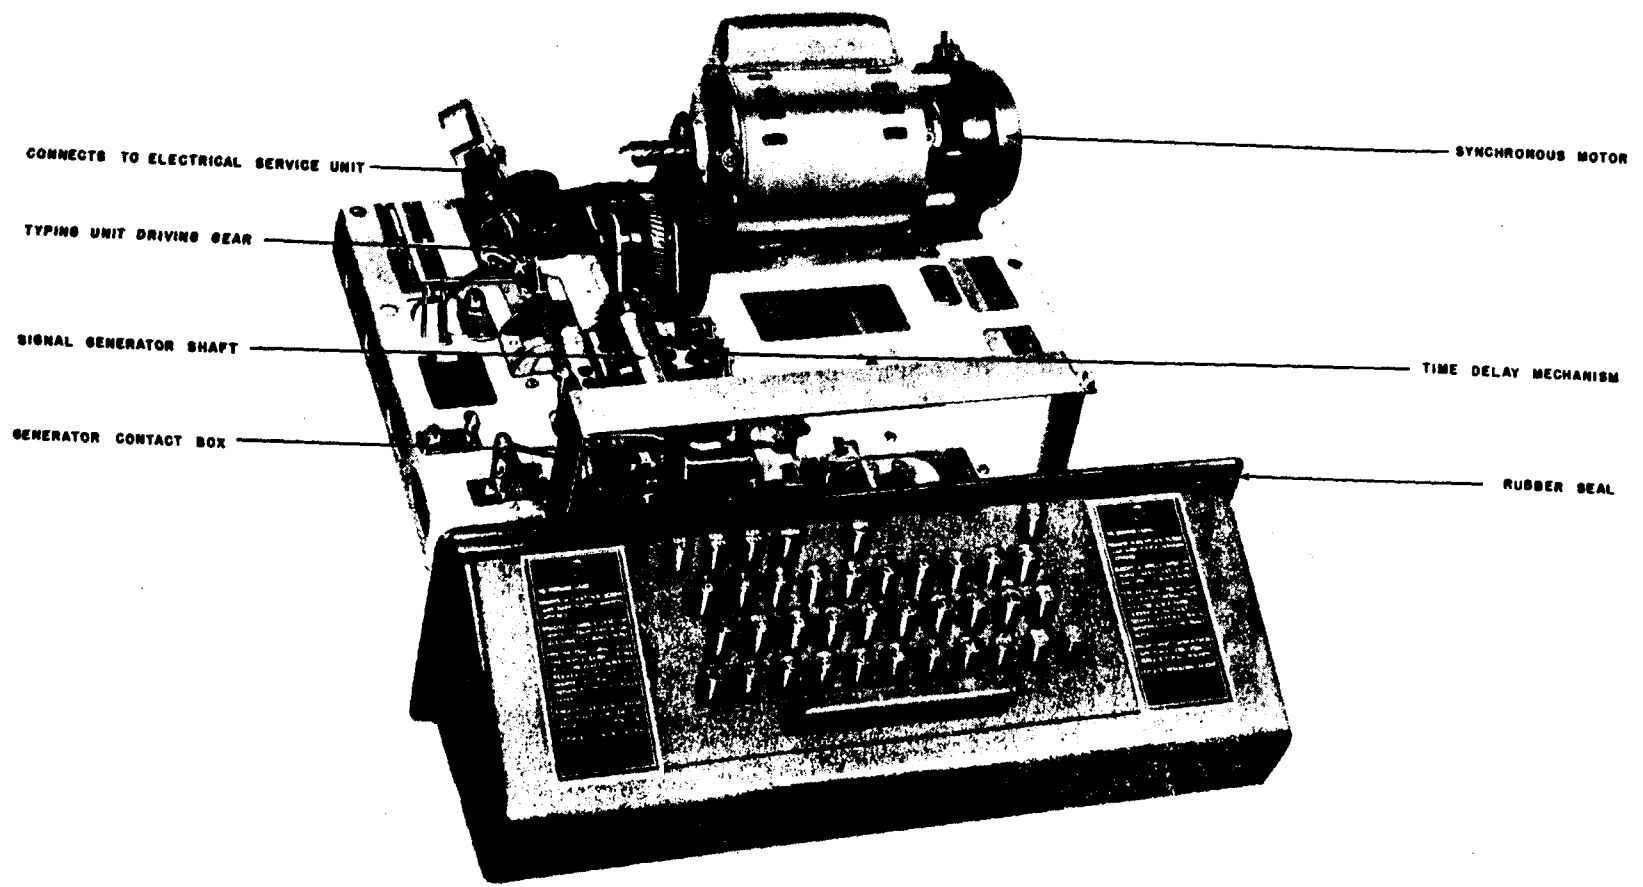

Fig. 3 - Keyboard with Motor
3.01 The keyboard consists of an intermediate shaft assembly, a code bar mechanism and a signal generator. The keys are positioned in the conventional three-bank arrangement and are colored green. Special keys (red) for line break, keyboard lock and unlock, repeat operation, and local carriage return and line feed are located directly above the standard green keys. In operation, the motor drives the intermediate shaft which furnishes motive power to the typing unit main shaft. This, in turn, drives the signal generator driven gear which is connected to the keyboard clutch drum by a sleeve. Thus the keyboard clutch drum is caused to rotate continually while the motor is running. The transmitting cam-clutch assembly of the signal generator remains stationary except when motion is extended to it from the keyboard clutch drum. Engagement of the clutch is brought about by the operation of any one of the green keys or the space bar, and a transmitting cycle is then initiated. See Fig. 3.
inch long and the operating pressure is considerably lighter than on previous equipment. The stroke is the same for all keys and the pressure is uniform regardless of position or previous selection. The key tops are spaced the same as on a standard typewriter. See Fig. 3.
3.04 A rocking contact arrangement generates the signals. This mechanism produces accurate chatter-free signals, either polar or neutral, without delicate adjustment. No change in cams is required for operation at various speeds. (See Fig. 3.)